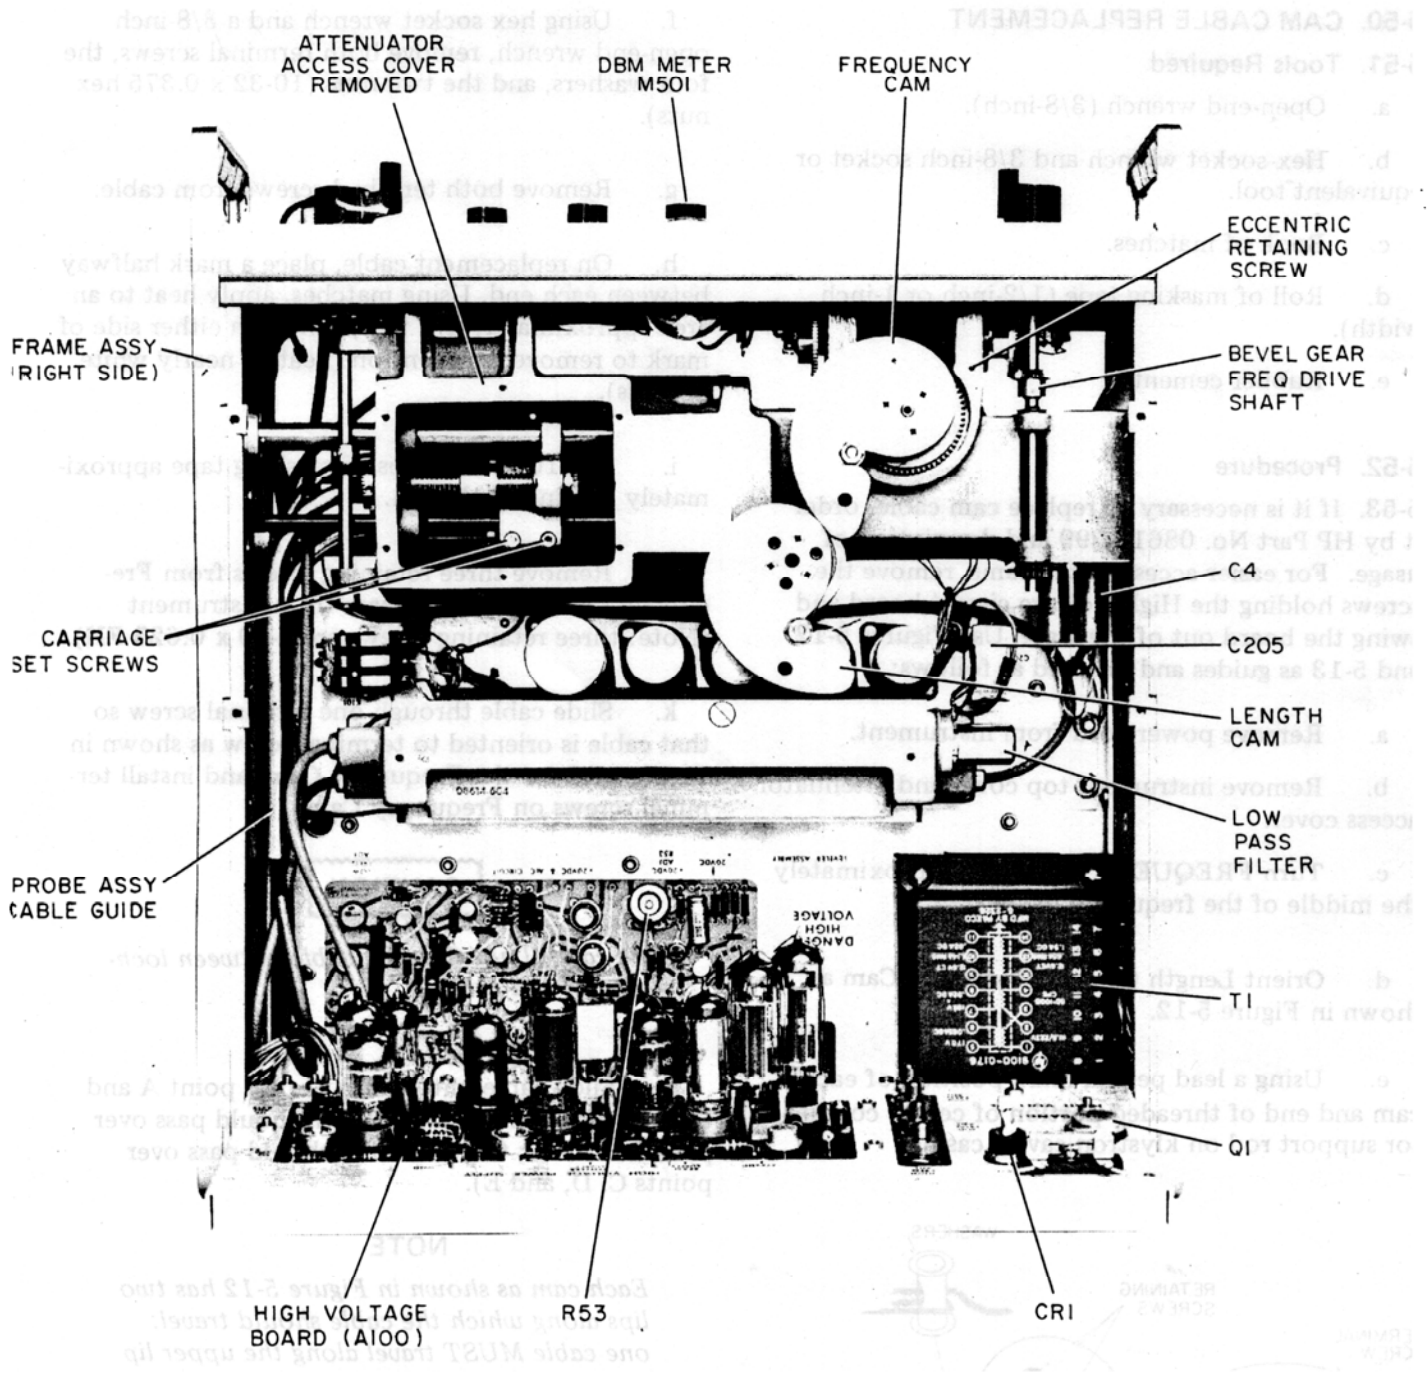

Figure 5-13. Instrument Top View, Cover Removed
- c. Remove Attenuator Access Cover from Klystron Cavity Casting (see Figure 5-13).
- (1) Adjustments should allow about 2 MHz variations with ΔF control.
- (2) The tracking pots interact making it necessary to repeat the adjustments a time or two in order to ensure proper tracking.
- d. Connect a clip-on milliammeter to wire on center feedthrough capacitor, C4 (wht/orn/vio wire, see Figure 5-13). Current must not exceed 30 mA unless klystron is defective.
e. Set actual frequency to 1000 MHz. Loosen spur gear on worm shaft and rotate gear until frequency dial reads 1000 MHz (see Figure 5-13).
f. Check FREQUENCY (MC) dial settings at both upper and lower ends of dial travel. The respective dial end points should be less than 800 MHz and greater than 2400 MHz. If dial travel is not satisfactory, loosen bevel gear on frequency drive shaft and reset dial.
2. If it is not, loosen the two setscrews in the attenuator drive shaft bevel gear (see Figure 5-13). With the bevel gear loose, turn the attenuator gear with your fingers until the output power is -11 dBm . Without disturbing the -11 dBm power setting, turn the attenuator knob on the front panel until the attenuator counter reads 012 dB. Tighten the two setscrews in the bevel gear.
2. If it does not, the RF UNCAL probe requires adjustment. The front right side panel should be removed, exposing the probe assembly cable guide. Remove the screw in the cable guide that is in line with the UNCAL probe retaining screw (see Figure 5-13). Insert a long Allen wrench through the hole left by removing the cable guide screw into the UNCAL probe retaining screw. Turn the retaining screw to adjust the UNCAL probe penetration for $-3 \text{ dBm} \pm 0.3 \text{ dBm}$ output.
2. If it is not, the ALC attenuator probe requires adjustment. The front right side panel should be removed, exposing the probe assembly cable guide. Remove the screw in the cable guide that is in line with the ALC probe retaining screw (see Figure 5-13). Insert a long Allen wrench through the hole left by removing the cable guide screw into the ALC probe retaining screw. Turn the retaining screw to adjust the ALC probe penetration for $120 \text{ mV} \pm 2 \text{ mV}$ at the ALC crystal output.